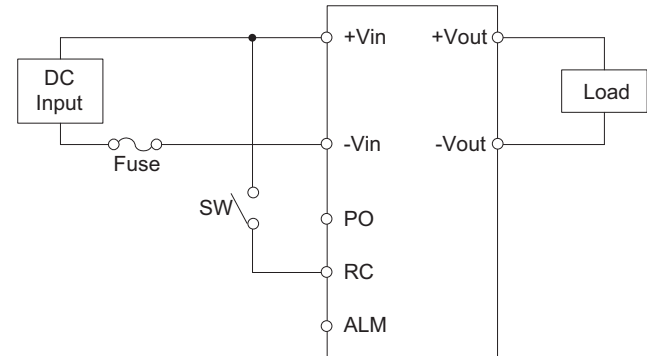

Fig.2.1 Connection for standard use
■In order to use the power supply, it is necessary to wire as shown in Fig.2.1.